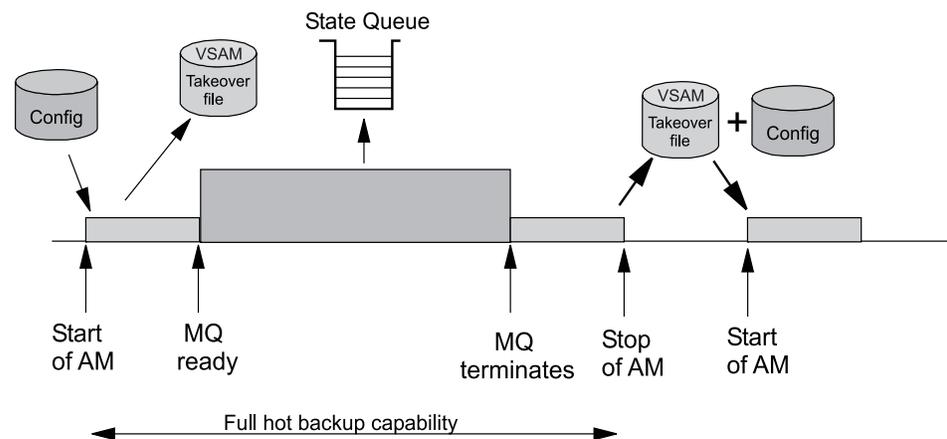

Figure 5. Automating WebSphere MQ with SA z/OS
Figure 5 shows the timeline for the WebSphere MQ solution when WebSphere MQ is automated by SA z/OS.
2. If the PAM or its system fail during the startup phase, an SAM becomes the new PAM. The new PAM reads the actual state of the automatable resources from the takeover file. (Note that this is not represented in Figure 5.)
4. If the PAM or its system fail while WebSphere MQ is running, an SAM becomes the new PAM. The new PAM uses the information in the shared WebSphere MQ queues. (Note that this is not represented in Figure 5.)
- If there are any SAMs, one of these becomes the new PAM. (Note that this is not represented in Figure 5.)